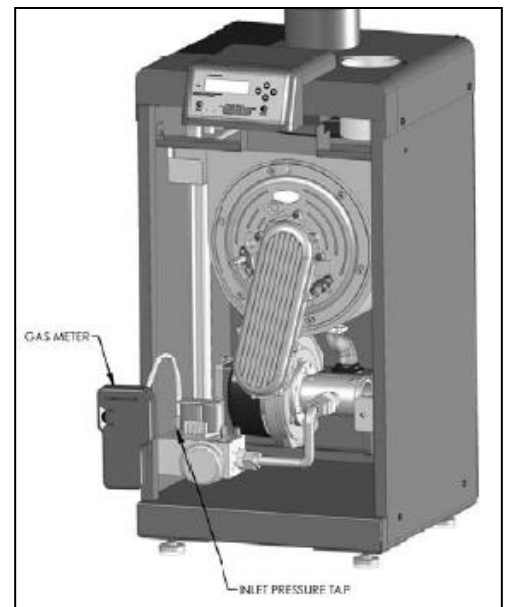

Figure 23 – LP-205-W
**NOTE:** A termination plug is included in the CAT 3 / CAT 5 Bus Connection Point, labeled J3 in Figure 23. DO NOT REMOVE THIS PLUG! Doing so will affect boiler operation and void warranty.